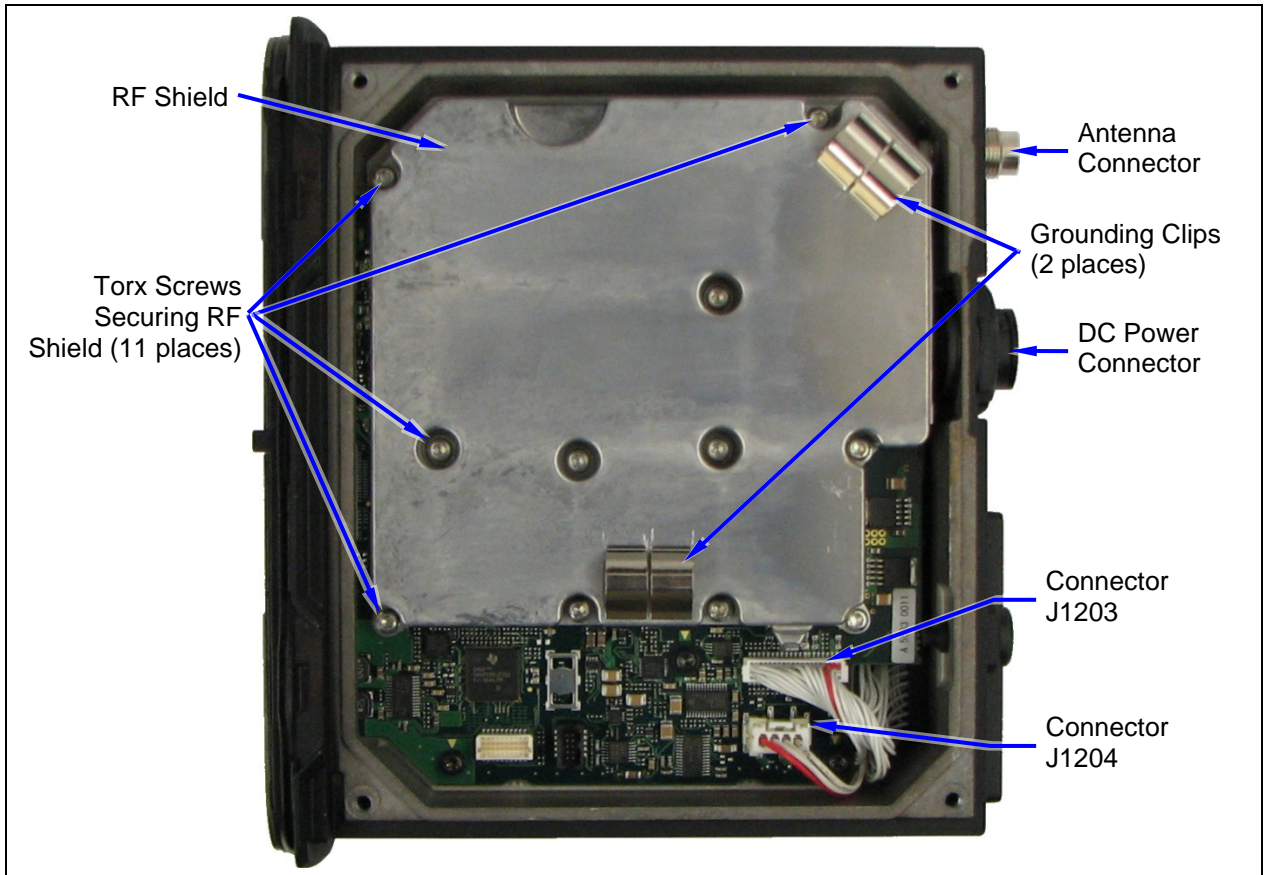
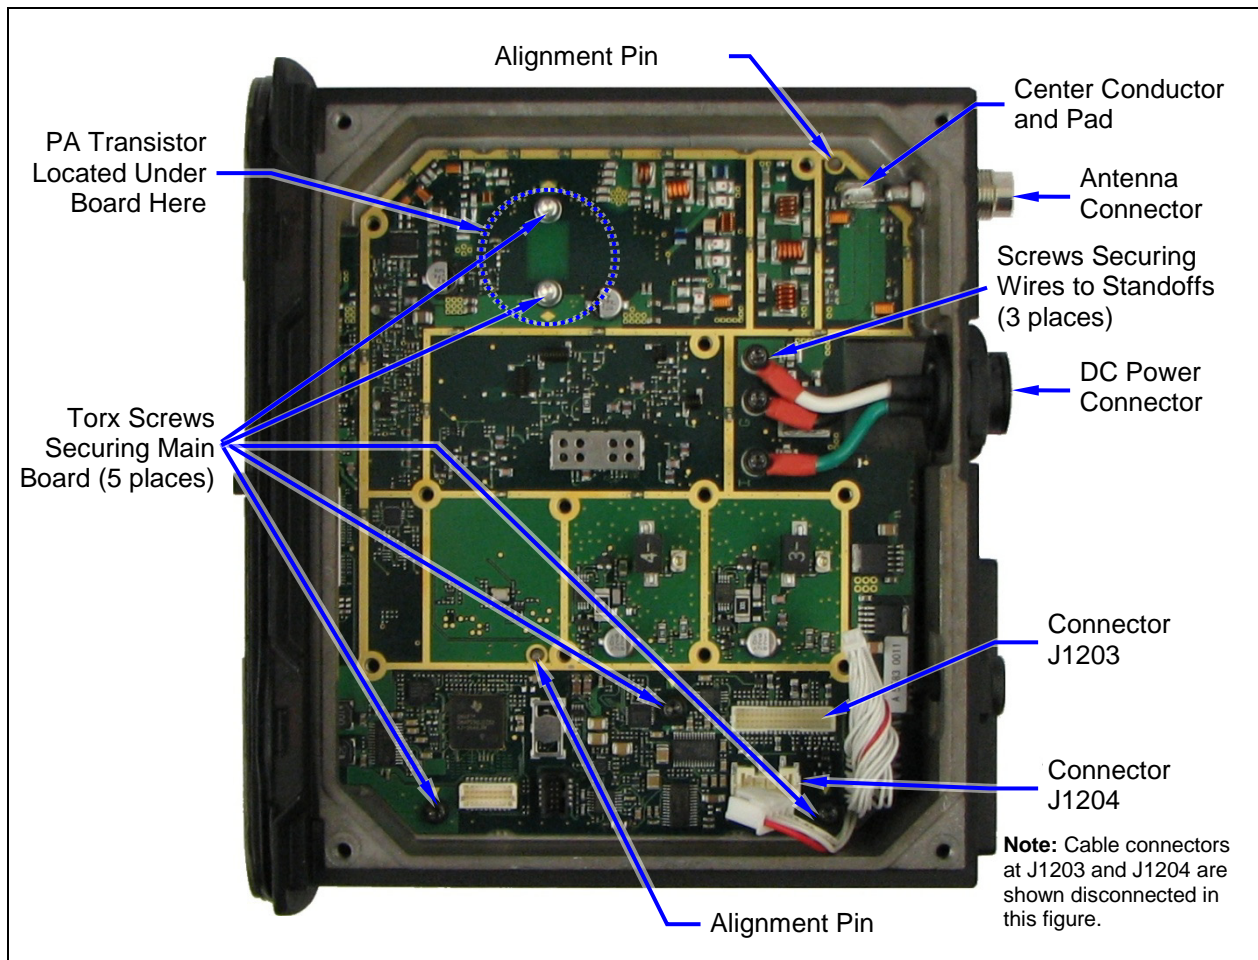

Figure 14-4: Removing the Main board (Radio Shown Without Bottom Cover)
Figure 14-5: Removing the Main board (Radio Shown without Bottom Cover and RF Shield)
5. Near the rear of the radio chassis, unplug the connectors mated to connectors J1203 and J1204 on the Main Board. See Figure 14-4. The connector mated to 4-pin connector J1204 has a locking tab that must be depressed before the connectors are pulled apart.
6. Using a T10 Torx screwdriver, completely loosen the eleven (11) screws securing the casted RF shield to the radio chassis.
8. If the radio is equipped with the optional GPS receiver module, loosen and remove the screw that secures the module, then lift it up to unplug the module from connector J0901 of the Main Board. The module is not shown in Figure 14-4.
9. Using a T10 Torx screwdriver, carefully loosen and remove the three (3) screws securing the wires from the DC power connector to the three (3) metal standoffs on the Main Board. See Figure 14-5.
10. Using a T8 Torx screwdriver, loosen and remove the two (2) screws securing the antenna connector to the chassis.
5. Carefully lay the Main Board into the radio chassis. Insert the front edge of the board into the large slot at the front of the chassis, then lay the rear of the board down onto the chassis. The entire board should be flat on the floor of the chassis, and the two (2) alignment pins should be extending through the holes in the board. See Figure 14-5.
6. At the location of the PA transistor, start (but do not tighten) two **13-millimeter-long** T10 Torx-head nickel-plated screws into the two threaded holes of the chassis. See Figure 14-5. Be sure to use the correct screws.
7. Start (but do not tighten) three **9-millimeter-long** T10 Torx-head black-anodized screws into the three threaded holes of the chassis nearest to connectors J0901, J1203 and J1204. See Figure 14-5. Be sure to use the correct screws.
8. Torque these three (3) screws to 7.4 inch-pounds (8.5 kgf/cm).
9. Torque the two (2) screws at the PA transistor to 4.3 inch-pounds (5.0 kgf/cm).
18. Install the RF shield into position over the Main Board. See Figure 14-4.
20. Connect the two cable connectors to connectors J1203 and J1204. See Figure 14-4.